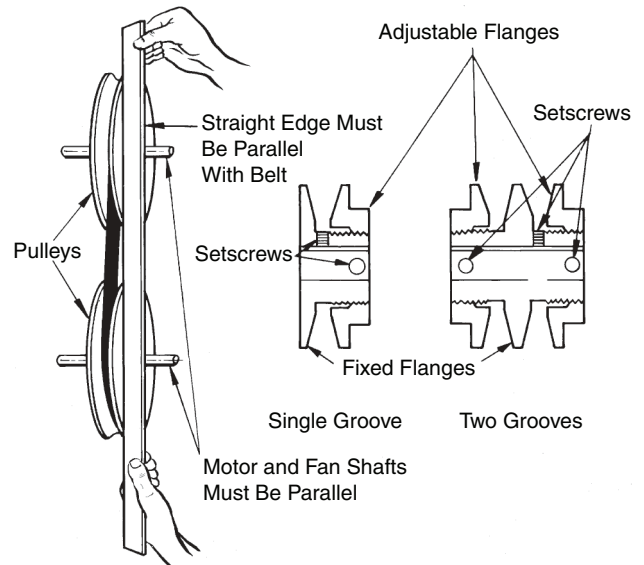

Fig. 35 — Fan Pulley Adjustments
3. Use the methods shown in Fig. 35 to check proper pulley alignment.
2. Loosen setscrew in movable flange of pulley. Screw movable flange toward fixed flange to increase the fan speed and away from fixed flange to reduce speed. Before tightening setscrew, make certain that setscrew is over nearest flat surface of pulley hub. (See Fig. 35.)